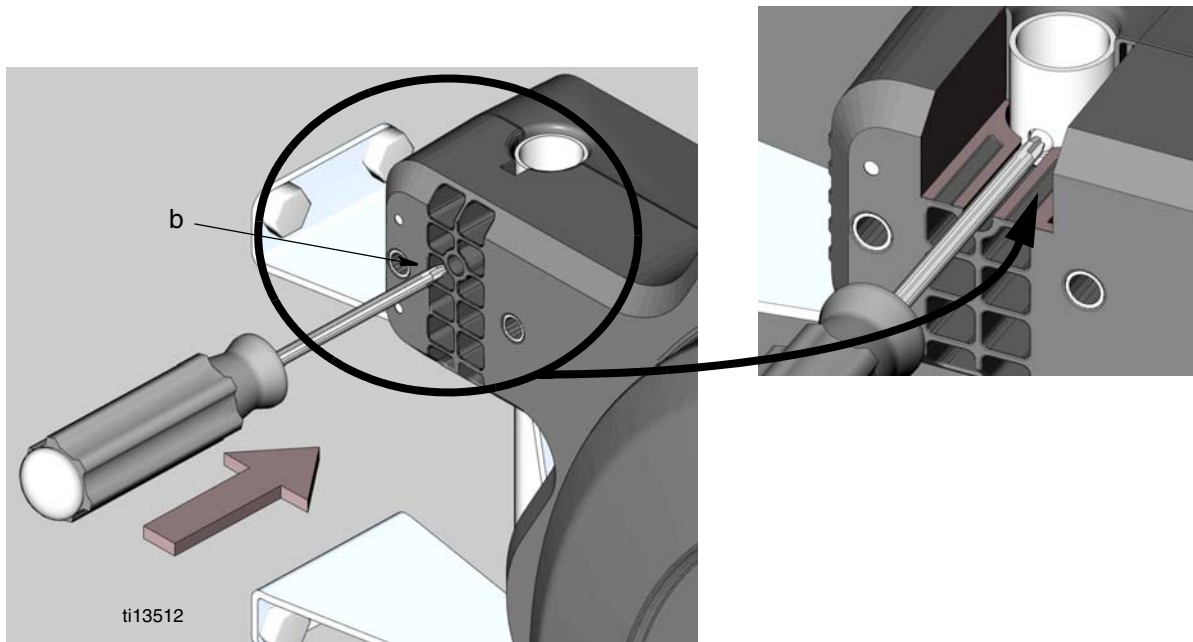

FIG. 7
- a. Insert a screw driver in opening (b) to depress spring pin on mounting tube (FIG. 7).